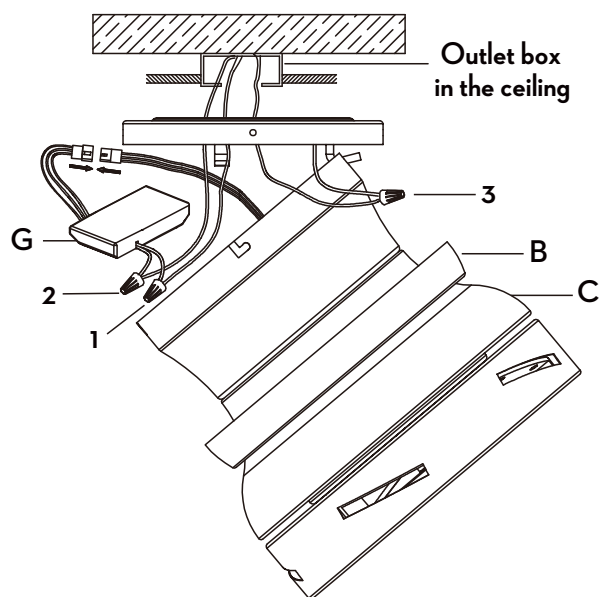

Figure 6
**IMPORTANT:** Use the wire nuts (AA) supplied with your fan. Secure the connectors with electrical tape and ensure there are no loose strands or connections.
- Connect the receiver (G) to the fan wires by inserting the molded adaptor plug from the receiver (G) to the molded adaptor plug from the fan motor assembly (C), as illustrated in Figure 6.
- Use wire connectors (AA) to connect the receiver (G) and fan wires to the supply wires from outlet box according to Figure 6 and the following instructions: